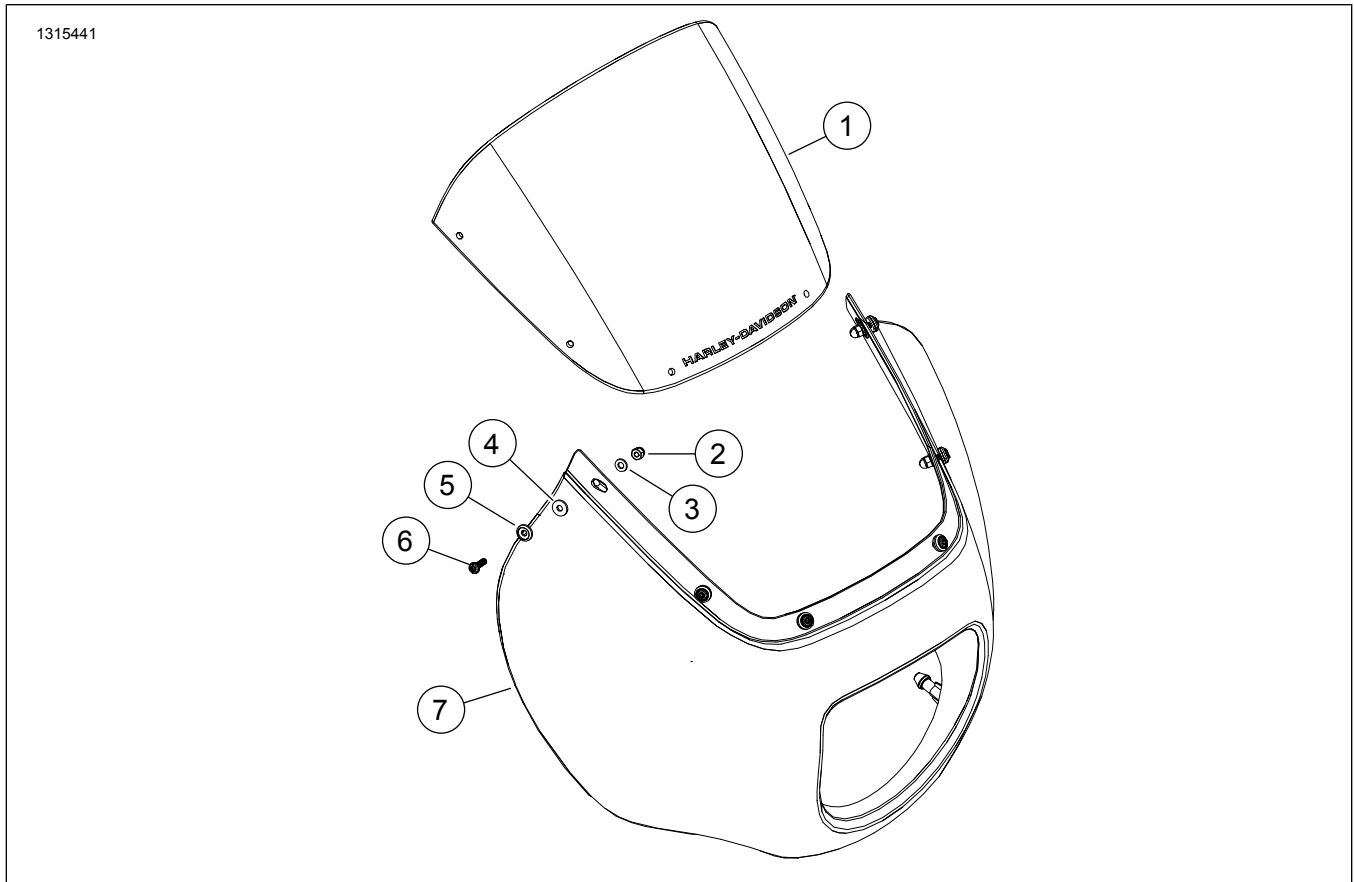

Figure 1. Service Parts: Rider Backrest Components
1. Figure 1 Install windshield (1) to quarter fairing (7).